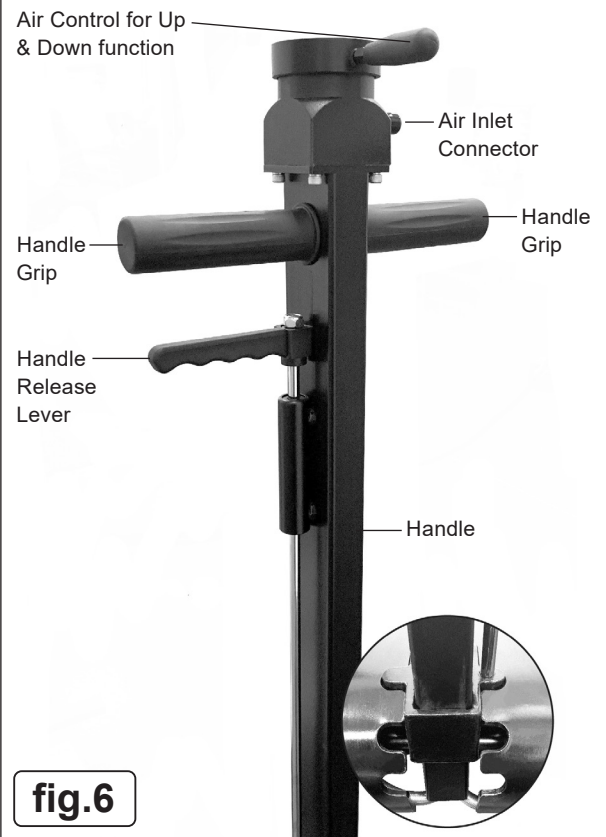

fig.6
- 5.10.2. To set the handle to the desired angle, pull the handle release lever upwards toward the main handle as shown in Fig. 6. While holding the lever, move the handle to the required position. Once the handle is in place, release the lever to lock it. The jack offers three selectable handle positions. See the next page illustration in fig.6.